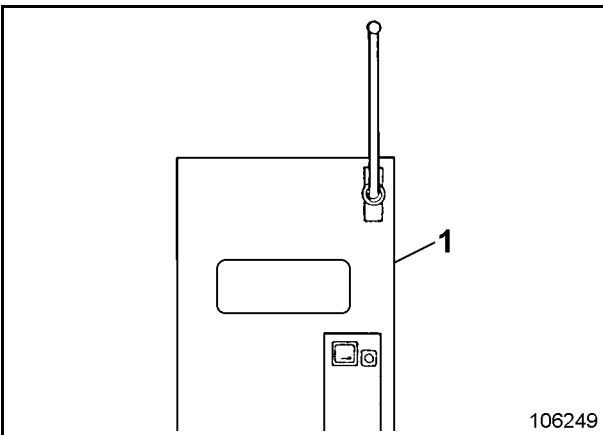

Fig. 2-43:
- **Circuit breaker** (1, Fig. 2-43:) **ON**